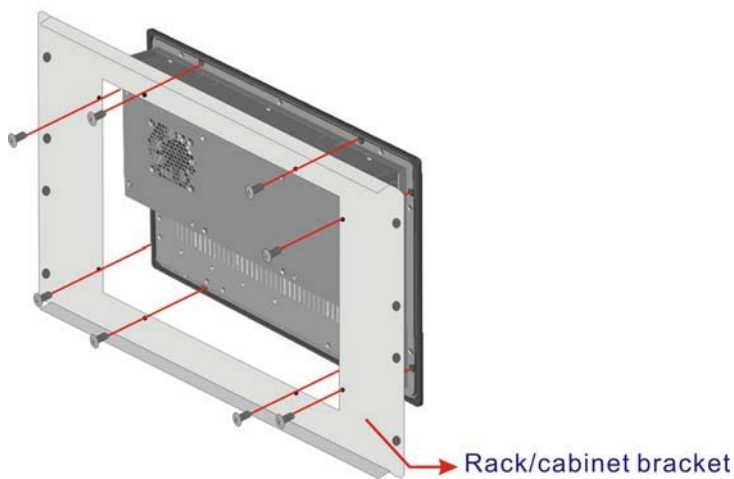

Figure 3-33: Secure the 2901240/2901250 Rack/Cabinet Bracket
Step 4: Secure the rack/cabinet bracket to the 2901250 flat panel PC by inserting the retention screws (**Figure 3-33**).